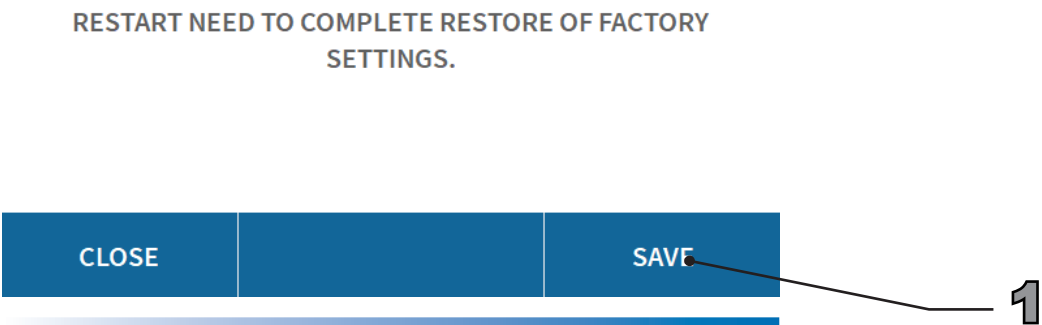

Fig.99. Confirm restart from Master node screen
Once the procedure is complete, press the “Save” button ref. 1 Fig.99 at this point, the user is requested to reboot the Master Node to complete the restore procedure.